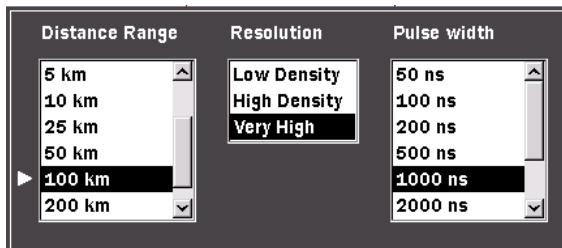

Figure 4-22: Range/Resolution/Pulse Width Dialog
1. Press **Range/Pulse Width (f4)**, the Distance Range, Resolution, and Pulse width dialog appears (see Figure 4-22 on page 4-68).